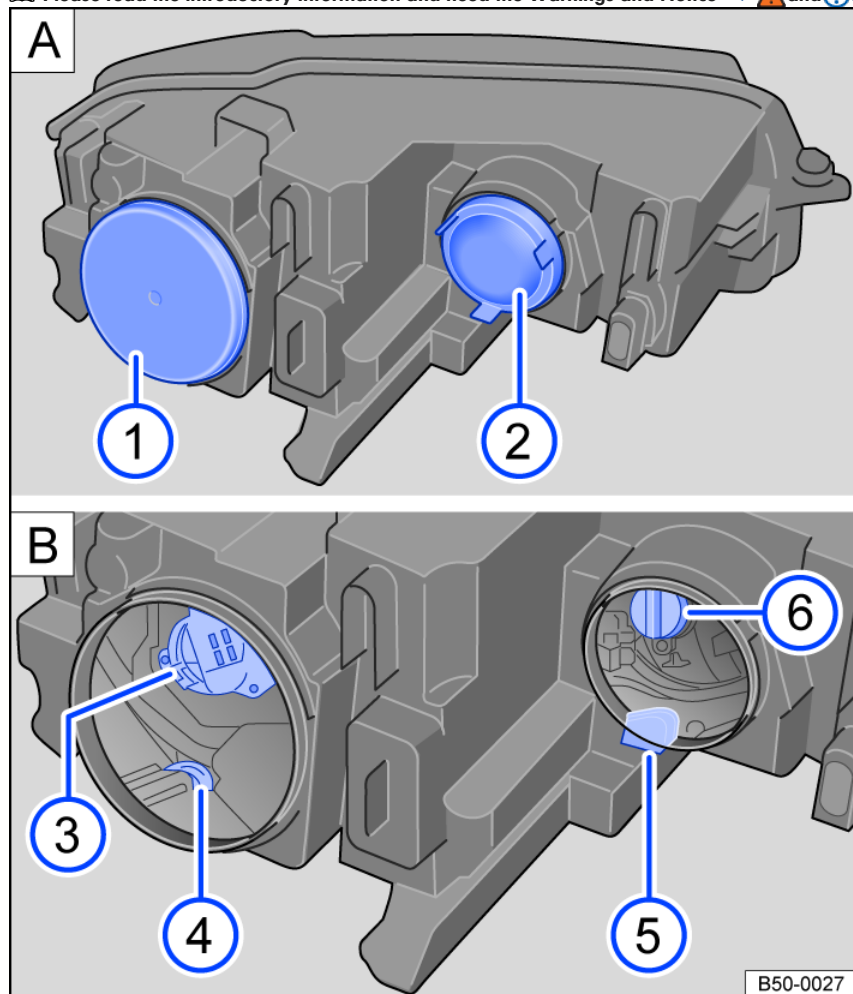

Fig. 176 In the engine compartment: A covers and B bulbs in the left headlight.
3. Remove the rubber cover on the rear side of the headlight *fig. 176*  and  **A**.
7. Attach the rubber cover on the rear side of the headlight *fig. 176*  and  **A**.